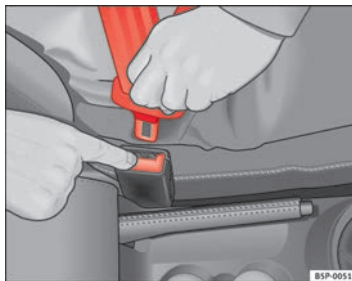

Fig. 16 Remove latch plate from buckle
- Press the red button on the belt buckle ⇒ Fig. 16. The latch plate is released and springs out ⇒ ⚠.